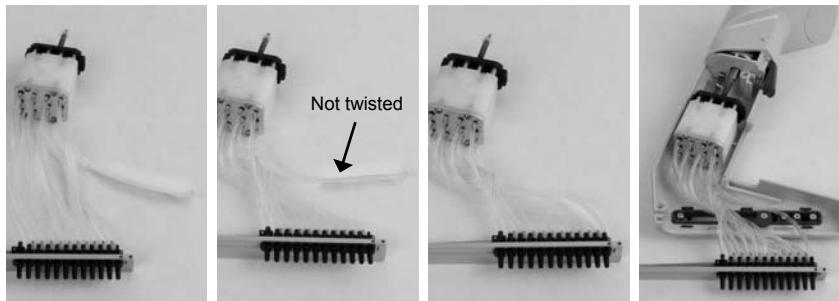

Figure F.1.4d: Rotating Manifold Assembly
**4. Rotating Manifold Assembly** After installing the piston/cylinder assembly, install the manifold assembly into the main housing. Make sure manifold is in closed position. To keep the tubing free from ejector contact, rotate the manifold plate and tubing one complete turn counterclockwise (see *Figure F.1.4d*). Spin tubing once, then reconnect tube one without twisting (*it is the only tube not twisted*).